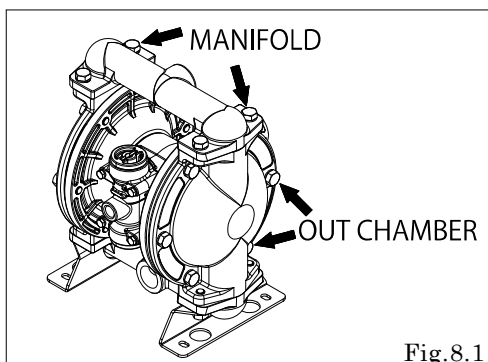

Fig. 8.1
- Retighten the Out chamber and then the manifold in this order. [Fig.8.1]